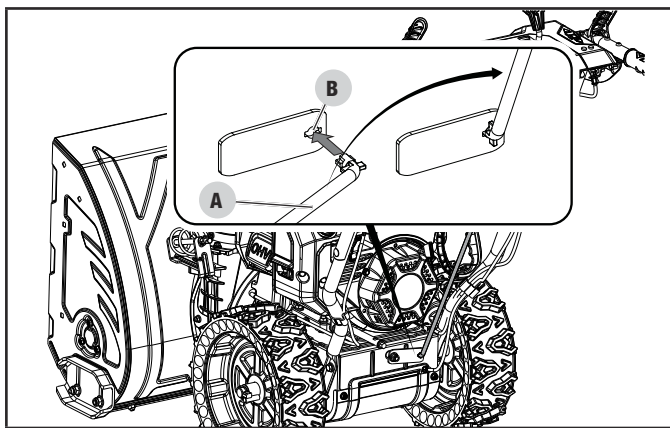

Figure 6
Attach the bottom end of speed control connecting rod (A) at about 10 o'clock orientation and slide rod end into key hole in speed select lever (B). Rotate the rod up toward 12 o'clock up toward speed selection lever. (Fig. 6)